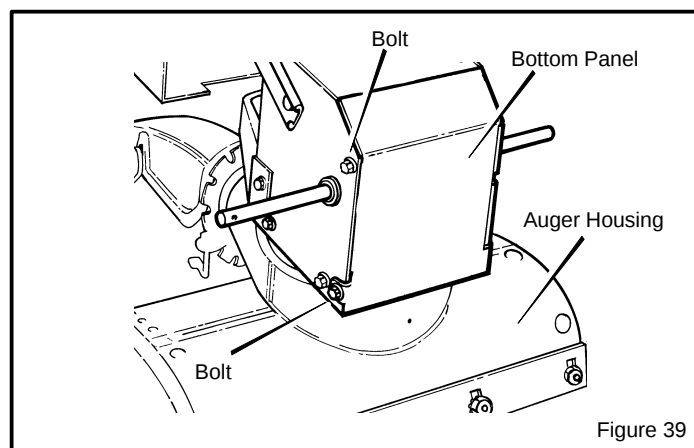

Figure 39
1. Remove the gas from the gas tank. Stand the snow thrower up on the front end of the **auger housing** (see Figure 39).
3. Loosen the **bolts** on each side of the **bottom panel** (see Figure 39).
6. Install the **bottom panel** (see Figure 39).
1. Remove the gas from the gas tank. Stand the snow thrower up on the front end of the **auger housing (4)**. (see Figure 39).